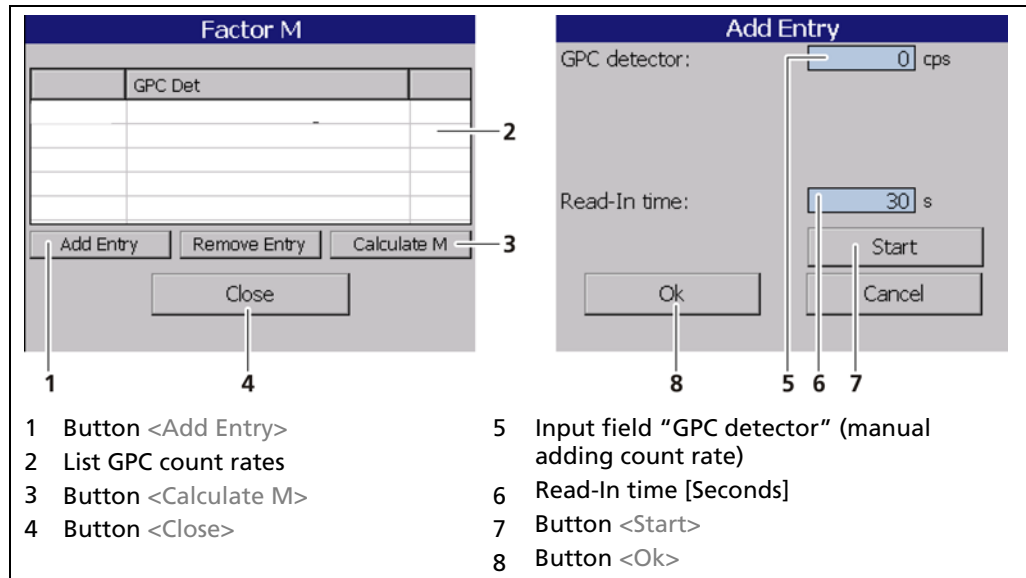

Fig. 80 GPC calibration: calculate Factor M
If it is not possible to capture the count rates, the values may be entered manually into the input field (Fig. 80, item 5).
1. Click on the <Add Entry> button (Fig. 80, item 1) to add a new point.
2. Enter a count rate value into the input field (Fig. 80, item 5).
3. Click on the input field "Read-In time" (Fig. 80, item 6) and enter a measurement time. Confirm with the Enter key.
4. Click on the button <Start> (Fig. 80, item 7). Make sure that the vessel is empty.
6. Click the button <Calculate M> (Fig. 80, item 3) to determine Factor M from the count rate.